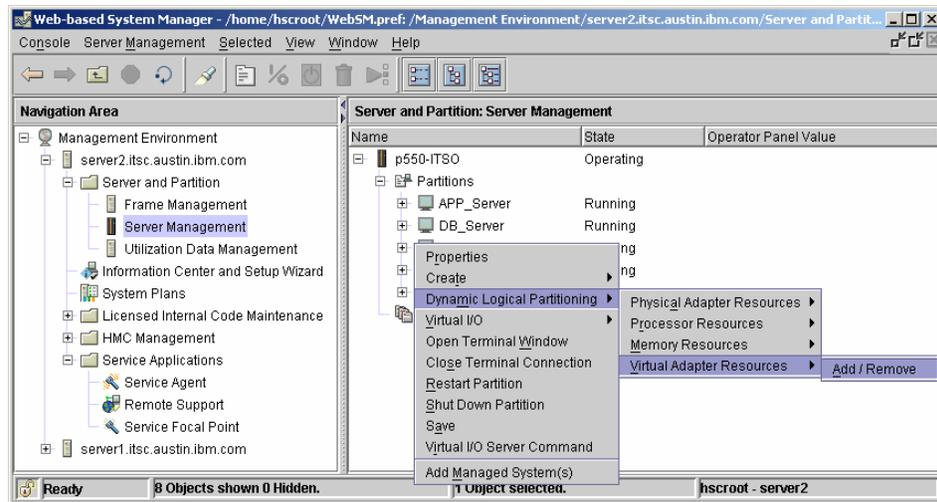

Figure 4-18 VIO\_Server1 dynamic LPAR operation to add virtual Ethernet
- a. On the VIO\_Server1 partition, right-click it and set **Dynamic Logical Partitioning** → **Virtual Adapter Resources** → **Add/Remove**, as shown in Figure 4-18.